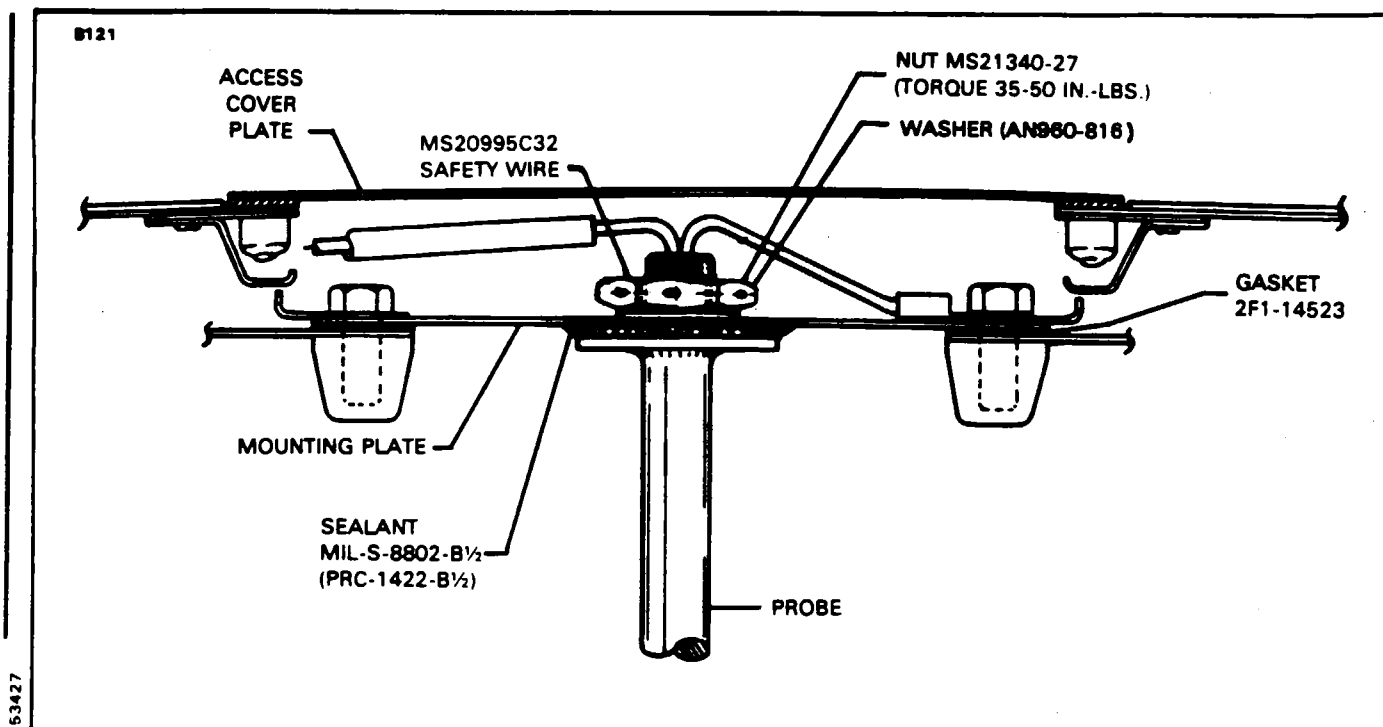

Figure 9-14. Low Fuel Warning Sender Sealing
9-66. **LOW FUEL WARNING SENDER SEALING.** (Refer to Figure 9-14.) The following instructions and illustration explain the recommended procedures for sealing the low fuel warning probe to prevent any possible fuel leakage:
- e. Assemble the probe to the plate as shown in Figure 9-14, securing the probe in place with the washer and plain nut. Torque nut 35-50 inch-pounds and safety with MS20995C32 wire.